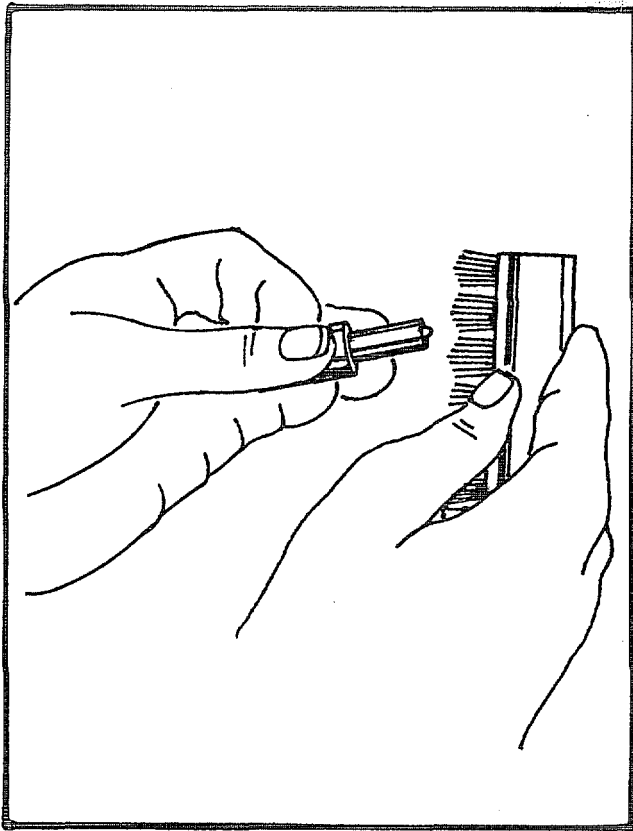

Figure 6-21. Cleaning the Nozzle Tip
- (3) After the nozzle (6) has soaked in solvent, use a brass wire brush to remove any remaining carbon or fuel stains from the tip. See Figure 6-21.
- (4) Clean the orifice holes in the nozzle valve body tip. Use a cleaning wire protruding only 1/16 inch (1.5875 mm) out of the pin vise for best